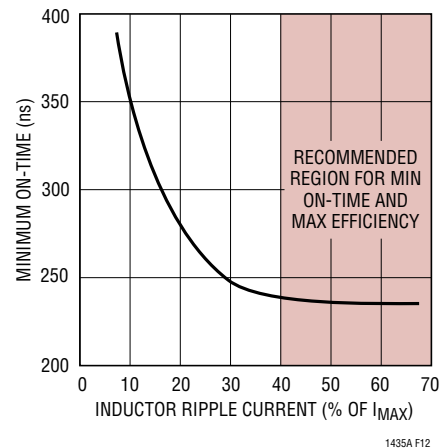

Figure 12. Minimum On-Time vs Inductor Ripple Current
The minimum on-time for the LTC1436A/LTC1437A in a properly configured application is less than 300ns but increases at low ripple current amplitudes (see Figure 12). If an application is expected to operate close to the minimum on-time limit, an inductor value must be chosen that is low enough to provide sufficient ripple amplitude to meet the minimum on-time requirement. To determine the proper value, use the following procedure:
2. Use Figure 12 to obtain the peak-to-peak inductor ripple current as a percentage of I_{MAX} necessary to achieve the calculated $t_{ON(MIN)}$.
3. Ripple amplitude $\Delta I_{L(MIN)} = (\% \text{ from Figure 12}) (I_{MAX})$ where $I_{MAX} = 0.1/R_{SENSE}$.
The ΔI_{L} was previously calculated to be 1.3A , which is 43% of I_{MAX} . From Figure 12, the LTC1436A/LTC1437A's minimum on-time at 43% ripple is about 235ns . Therefore, the minimum on-time is sufficient and no cycle skipping will occur.